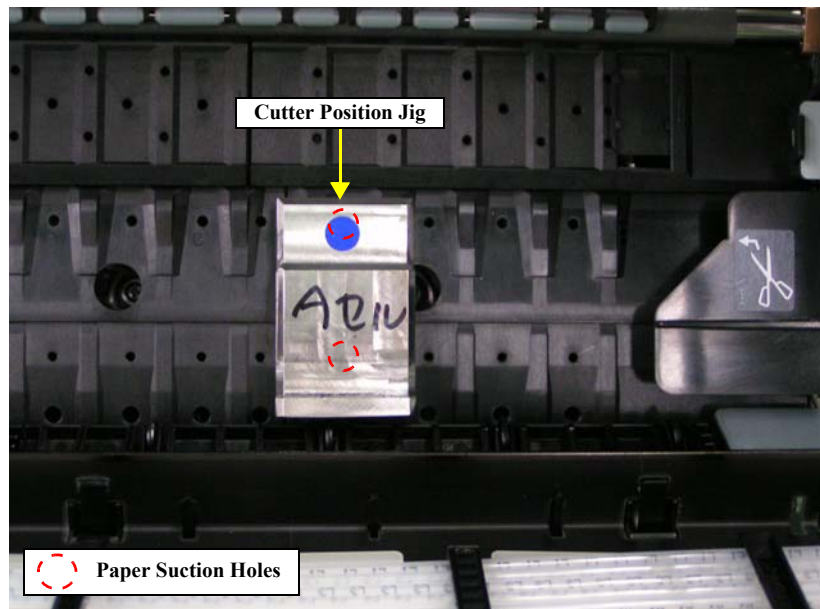

Figure 5-7. Jig Setting Position
1. Set the cutter position jig on the sub-platen at home side by putting the two legs of the jig into the paper suction holes as shown in Figure 5-7. Then move the Carriage Unit slowly until the Cutter Unit comes on the jig.